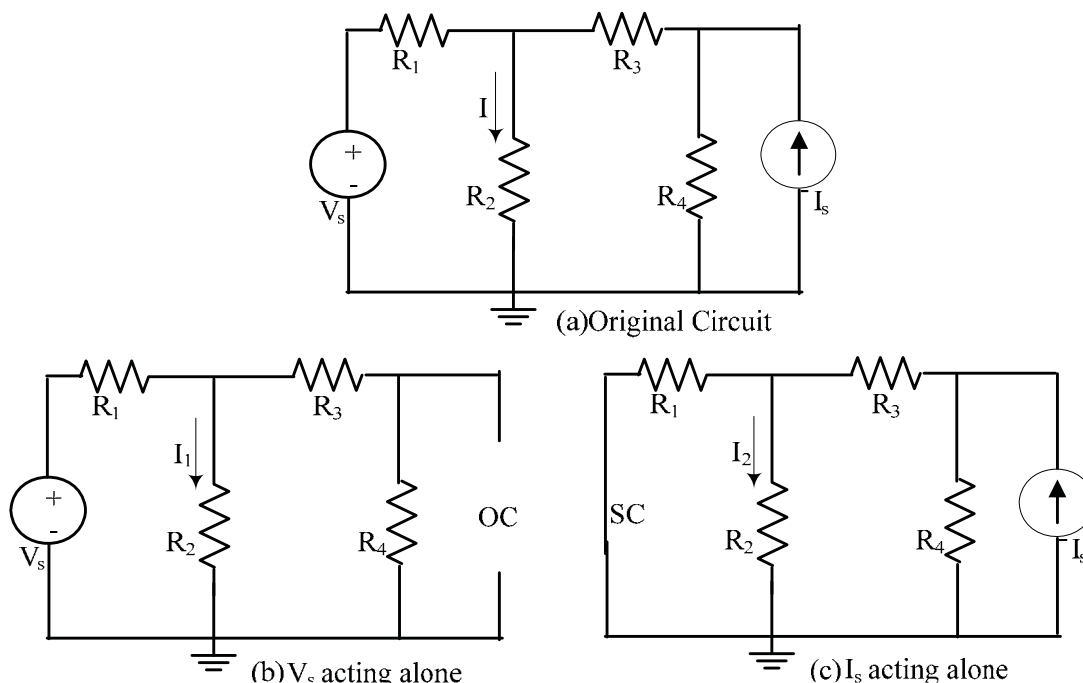

Figure 2.1
**The Superposition Theorem** applies to circuits which are excited by two or more independent sources, such as the one shown in Figure 2.1(a).
For such circuits, the theorem states that the current (or voltage) associated with any branch can be determined as the sum of the values of that branch current (or voltage) which will be produced by each of the exciting sources acting alone, with all other independent sources deactivated. For example the current  $I$  in Figure 2.1(a), is given by the sum of the currents  $I_1$  &  $I_2$  shown in Figures 2.1(b) & (c), respectively. The theorem simplifies the overall solution because each of the sub-circuits will contain only one independent source and will hence be simple to analyze using only basic steps such as voltage division, current division and Ohm's law.